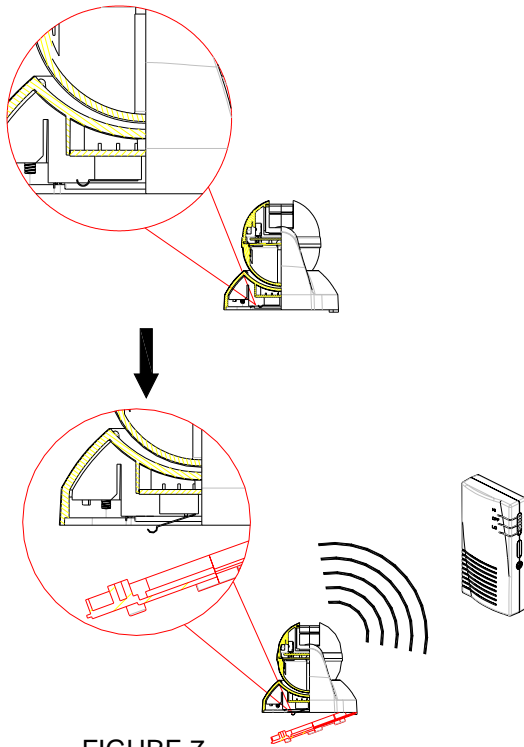

FIGURE 7
1. When removing the back cover, the tamper switch will be triggered. Trigger command of radio signal will emit every 3 seconds. With such recurrence for 3 times, It will enable the Sounder to alarm. (FIGURE 7)